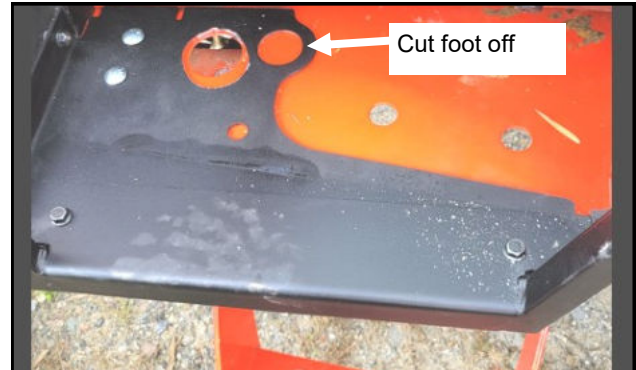

Fig. 2.1 (Modify floorboard mounts)
- 2.1 Reference fig. 2.1. Use bandsaw, Sawzall, or similar to cut foot off of floorboard mount. Repeat for opposite side.
- 2A.1 Remove, and save for reuse, the OEM nut and lock washer from the large hole in the left tractor floorboard where the plug was removed in step 1.4, using an impact gun. Place the tube on the underside of the left cab floorboard mount into the hole, over the stud, and secure with the same OEM nut and lock washer. See Figure 2.1.